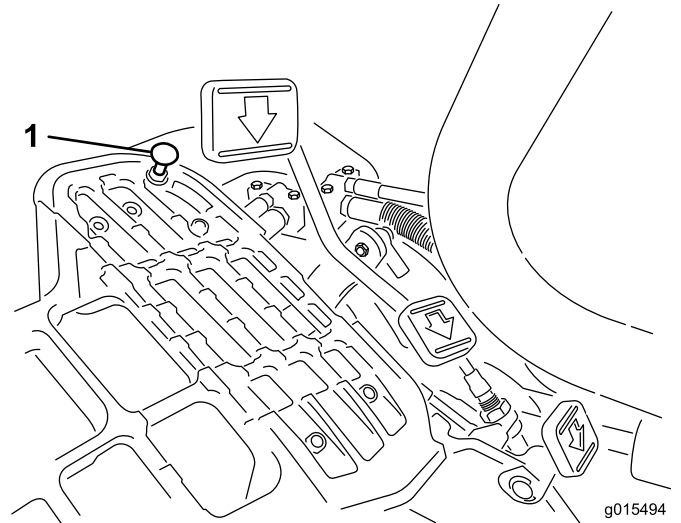

Figure 49
Press down on the traction pedal. If the pedal contacts the stop (Figure 49) before tension is felt on the cable, an adjustment is required:
1. Loosen flangehead locknuts securing the pedal stop to the floor plate (Figure 49).